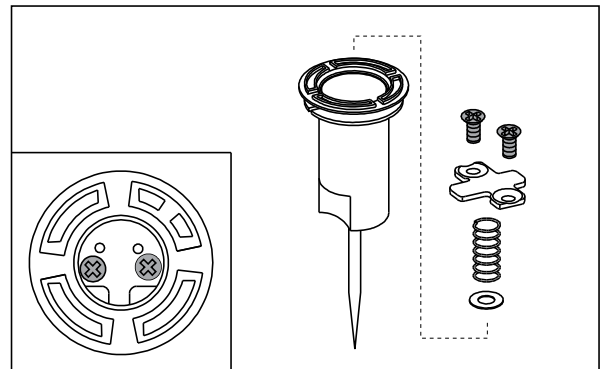

Fig. 4.28
- Remove screw plate jet needle (2 Nos.) and take out plate jet needle, spring jet needle and packing jet needle. (Fig. 4.28)